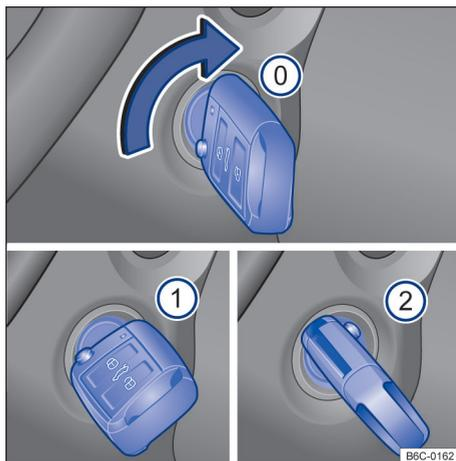

Fig. 82 Next to the steering wheel, to the right: vehicle key positions on the ignition cylinder.
Positions of the key in the vehicle → Fig. 82
- *Vehicles with heated start:* turn the vehicle key to position → Fig. 82 ①. Ignition switched on. The warm starting system's indicator lamp  will then light up on the instrument cluster. Wait until the indicator lamp  is disabled, indicating the end of the fuel warming process (this action may be required when starting cold engines).
- Turn the vehicle key in the ignition lock to position → Fig. 82 ② – do not accelerate. When the engine catches, release the ignition key.
- *Vehicles with heated start:* turn the vehicle key in the ignition lock to position → Fig. 82 ② to start the engine – do not accelerate. If step 5 is not followed, the indicator lamp  will flash, indicating the need to stop the starting procedure and repeat it after returning the key to position → Fig. 82 ① and waiting approximately 10 seconds.